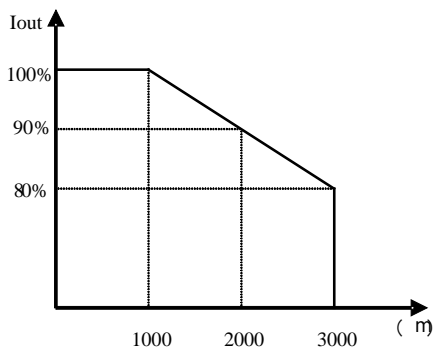

Fig 1-7 Derating drive's output current with altitude
- Derating must be considered when the drive is installed at high altitude (greater than 1000m). This is because the cooling effect of drive is deteriorated due to the thin air, as shown in Fig. 1-7 that indicates the relationship between the elevation and rated current of the drive.